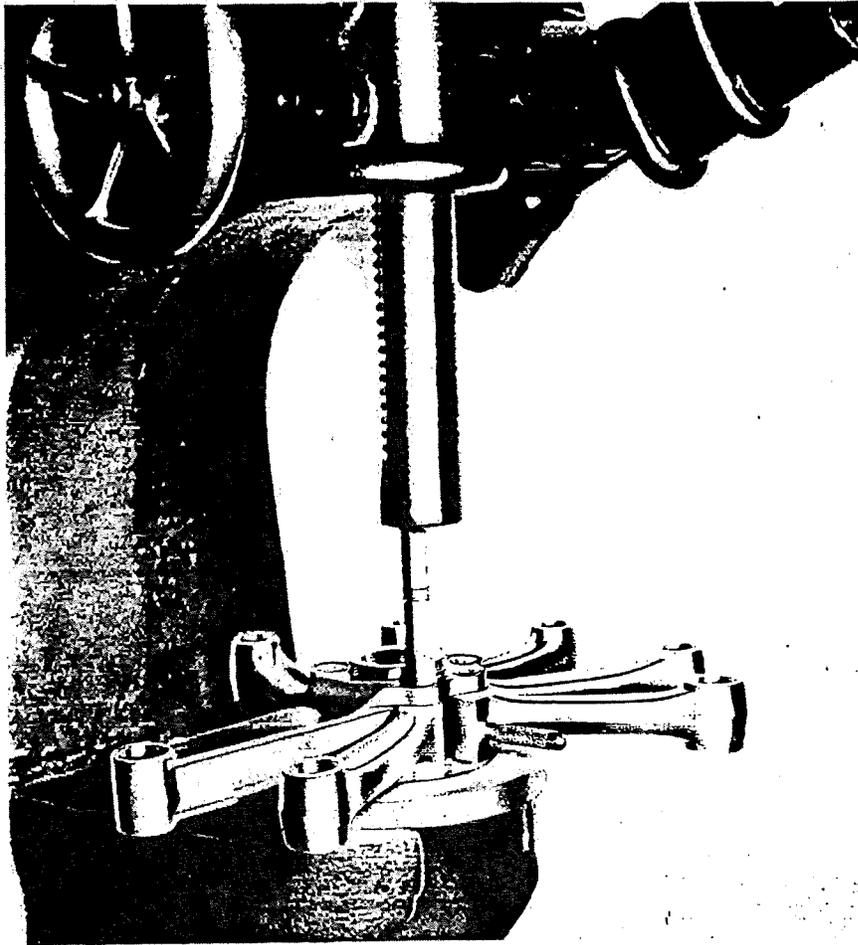

Figure 31 - Installing Knuckle Pins.
(6) Place Wedge (Tool No. T-367-1) between master rod flanges near the knuckle pin being pressed in. This is to prevent distortion of the master rod.
(7) Turn knuckle pin with central oil holes radially outward toward the link rod and press in with the arbor press. Refer to Figure 31.
(8) Continue above procedure until all